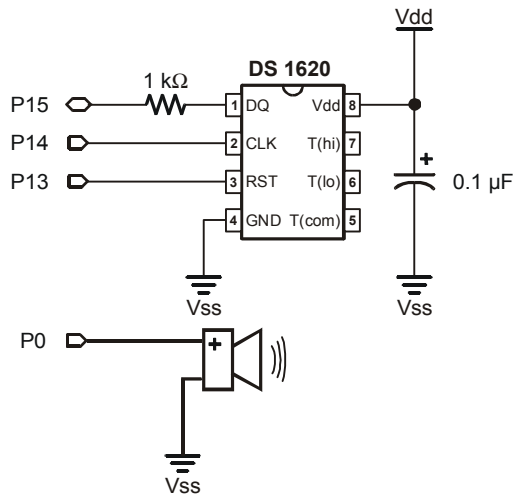

Figure 1-4
- √ Build the circuit for the DS1620 as shown in Figure 1-4, following the positioning for the wiring diagram shown in Figure 1-5. Please note that the piezo circuit built previously remains in place in the schematic and wiring diagram, as it should on your Board.